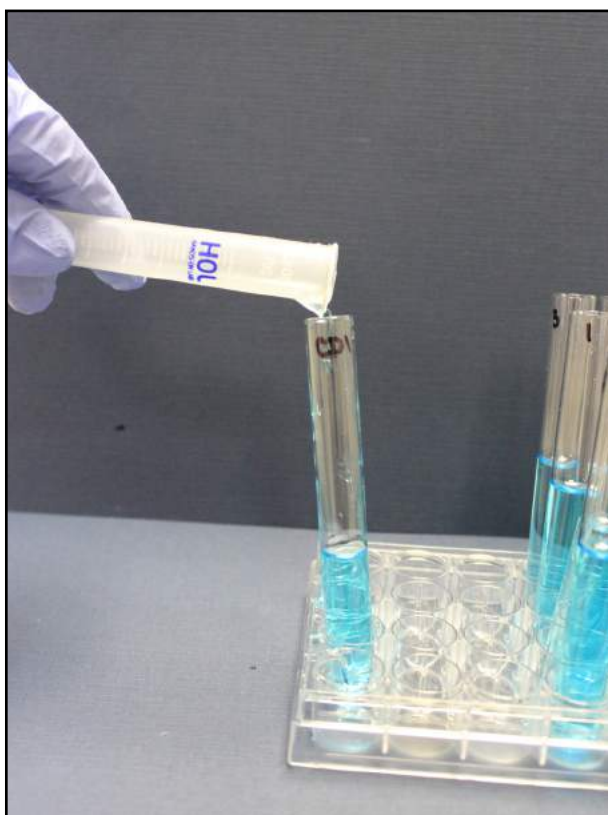

Figure 12. Adding solution to test tubes.
2. Fill test tube CD1 with 5 mL of the commercial drink #1 sample from the dropper bottle in the experiment bag. See Figure 12.